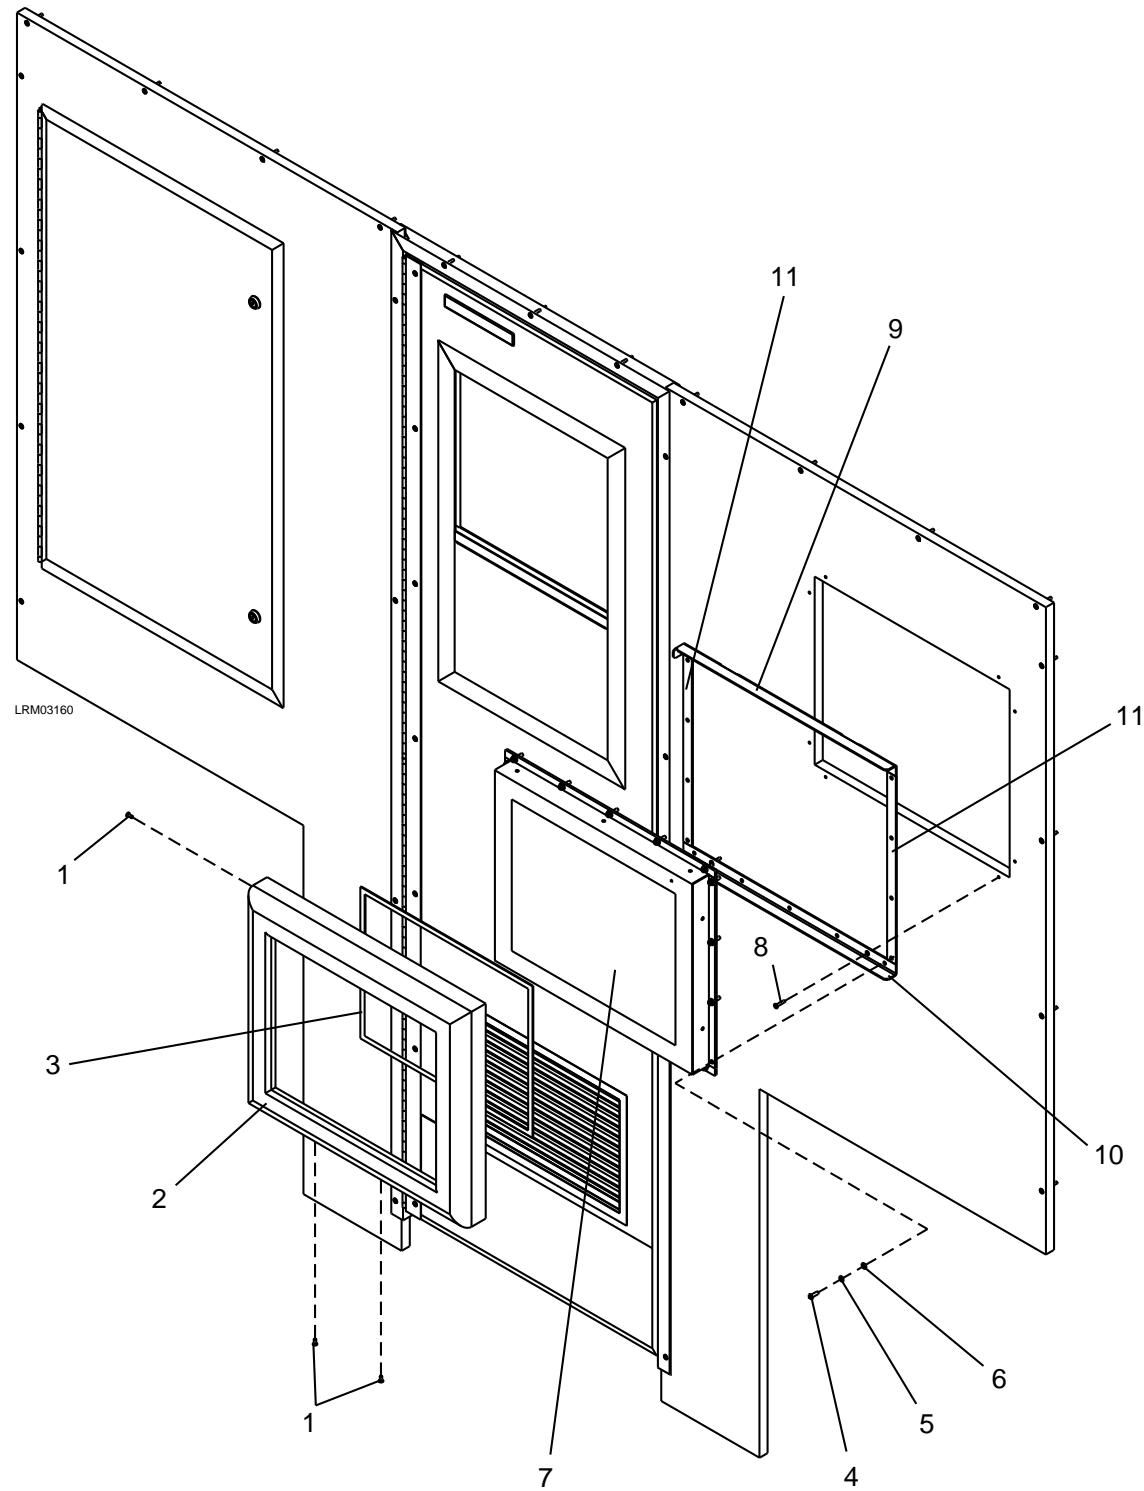

Figure 7-87: Interior Passenger Information Sign (Cab)
1. Remove the three M4 x 10 screws (1) from the cover (2). See Figures 7-87 and 7-88.
2. Remove the cover (2) and packing (3).
3. Remove the eighteen M5 x 20 screws (4), M5 lockwashers (5) and M5 plain washers (6).
4. Remove the Interior Passenger Information Display (7) enough to access the wiring.
5. Disconnect the electrical connector from the Interior Passenger Information Display (7).
6. Remove the Interior Passenger Information Display (7).
7. Remove the four M4 x 12 screws (8).
8. Remove the two brackets (9 & 10) and the packing (11).